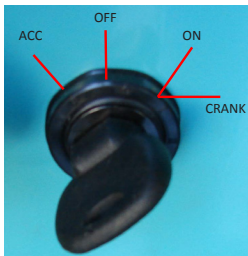

Figure 19. Ignition Key ON
2. On the trowel, turn the ignition key to the ON position (Figure 19). This will turn on the MCU. It is not necessary to crank or turn on the engine.